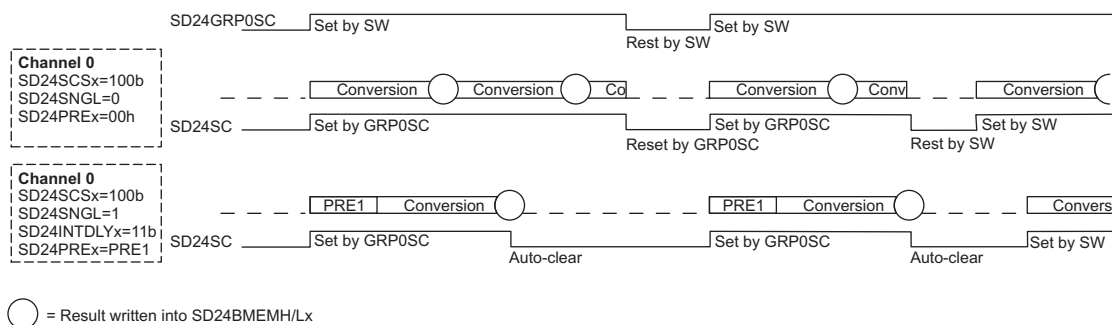

Figure 8. Phase Compensation Using PRELOAD Register
The Current Transformer (CT) when used as a sensor and the input circuit's passive components together introduces an additional phase shift between the current and voltage signals that needs compensation. The  $\Sigma\Delta$  converter has built in hardware delay that can be applied to individual samples when grouped. This can be used to provide the phase compensation required. This value is obtained during calibration and loaded on to the respective PRELOAD register for each converter. Figure 8 shows the application of PRELOAD (SD24PREx).